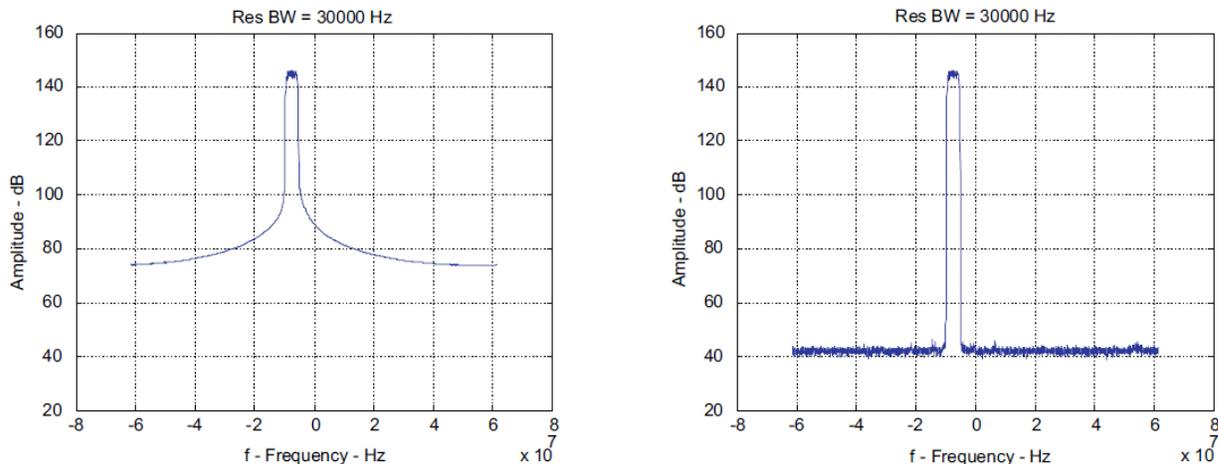

Figure 9. Comparison: Using Exact Frequency (Left) vs Using Rounded Frequency (Right)
- **ExactFreq:** uses the exact frequency specified in **IF (MHz)** and **Carrier Off Freq (MHz)**. When deselected, the frequency is rounded to the closest frequency that has a prime integer number of periods in the pattern time. When using the exact frequency, if there is not an integer number of periods in the pattern time, there may be a glitch in the pattern as it wraps from back to front. This is seen in the FFT display as skirts on the carrier (Figure 9). Typically this control is not selected.
be slightly shifted if the **ExactFreq** check box is not selected. When using the exact frequency, if there is not an integer number of period in the pattern time, there may be a glitch in the pattern as it wraps from back to front. This is seen in the FFT display as skirts on the carrier (Figure 9). Typically the rounded frequency is used.